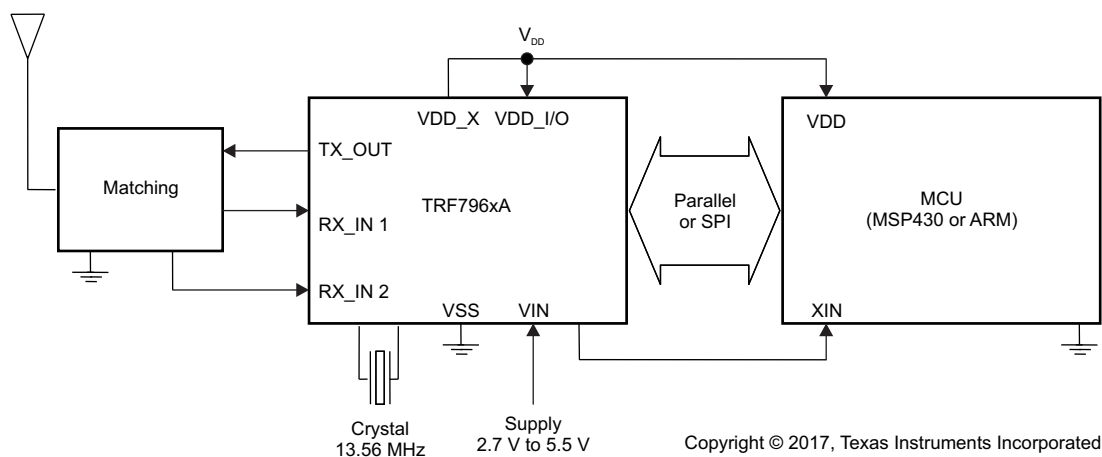

Figure 1-1. Application Block Diagram
Figure 1-1 shows a typical application block diagram.
- Updated the content of Section 1.3, Description 1 - Moved Figure 1-1, Application Block Diagram, to Section 1.4 and removed functional block diagram (see block diagram in Section 6.1) 2 - Added Section 3, Device Characteristics, and moved Table 3-1 to it 5 - Added Section 3.1, Related Products 5 - Changed the TYP value of the f_{D_CLKmax} parameter from 8 MHz to 4 MHz in Section 5.4, Electrical Characteristics ... 9 - Removed the sentence " This mechanism must be used to avoid reading holes" in the paragraph that starts "The default MUX setting is RX_IN1 connected..." in Section 6.6.1, Main and Auxiliary Receiver..... 17 - Removed paragraphs starting with "The main receiver also has a second receiver gain..." and "By default, the AGC is frozen..." in Section 6.6.2, Receiver Gain and Filter Stages 17 - Changed B1 and B0 to Reserved in Table 6-4, RX Special Setting Register (0x0A) 18 - Updated the first four paragraphs of Section 6.7, Receiver - Digital Section 18 - Updated the first three steps in the procedure that follows "To check the internal or external RSSI value..." in Section 6.7.1.2, External RSSI 21 - Changed the title of Table 6-5 from Minimum Crystal Requirements to Minimum Crystal Recommendations and removed the ESR row 22 - Updated the list that follows "There are two ways to start the transmit operation" in Section 6.10, Transmitter - Digital Section 23 - Updated the description in Section 6.11, Transmitter – External Power Amplifier or Subcarrier Detector 23 - Updated the paragraph that starts "If the received packet is longer than 8 bytes..." in Section 6.12.4, Reception of Air Interface Data..... 29 - Updated the paragraph that starts "TI recommends resetting the FIFO after..." in Section 6.12.6.2, Serial Interface Mode With Slave Select (SS) 36 - Corrected the Reset FIFO command name (added "FIFO") in Table 6-11, Command Codes 40 - Corrected Reset FIFO command name in the title of Section 6.13.2, Reset FIFO (0x0F) 40 - Removed former Section 6.13.12, Receiver Gain Adjust (0x1A) 42 - Moved Section 6.14, Register Description 43 - Removed "AGC" from the description of the register in Section 6.14.1.1.1, Chip Status Control Register (0x00) 44 - Changed B2 to Reserved in Table 6-16, Chip Status Control Register (0x00) 44 - Changed B1 and B0 to Reserved in Table 6-23, RX Special Setting Register (0x0A) 49 - Removed the description of AGC in Section 6.14.1.2.5, RX Special Setting Register (0x0A)..... 49 - Changed "High nibble" to "Middle nibble" in description of B3:B0 in Table 6-36, TX Length Byte1 Register (0x1D).. 56 - Changed "High nibble" to "Low nibble" in description of B7:B4 in Table 6-37, TX Length Byte2 Register (0x1E)..... 57 - Moved and changed title of Section 7, Applications, Implementation, and Layout 58 - Deleted former section Reader System Using Parallel Microcontroller Interface in Section 7, Applications, Implementation, and Layout 58 - Updated Figure 7-1, Application Schematic, SPI With SS Mode MCU Interface 58 - Updated the paragraph that starts "Minimum MCU requirements depend on application requirements..." in Section 7.1.2, Schematic 58 - Moved Section 7.2, System Design..... 59 - Added Section 8.1, Getting Started and Next Steps 61 - Added Section 8.2, Device Nomenclature 61 - Added Section 8.3, Tools and Software..... 62 - Updated Section 8.4, Documentation Support 62